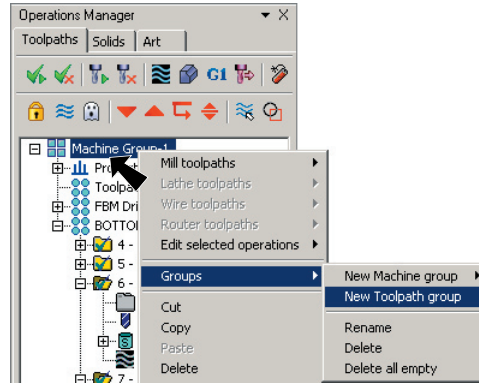

Fig. 65
Step 1. Insert another **Toolpath group**. To insert group, **right click Machine Group 1** at the very top of the Ops Manager and click **Groups > New Toolpath group**, Fig. 65.